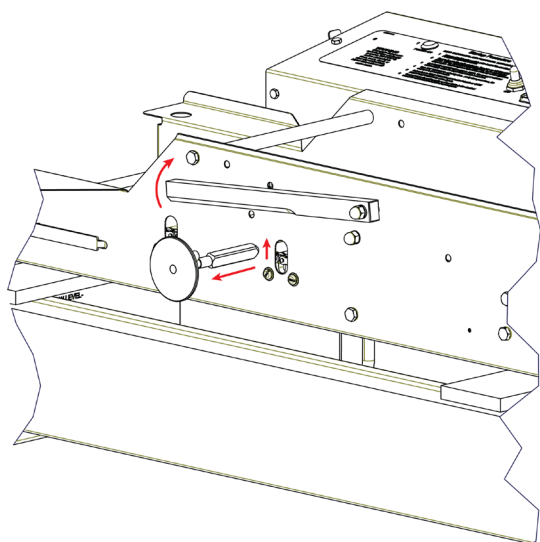

Figure 10
4. Swing the turner cam weight up out of position. See Figure 10.